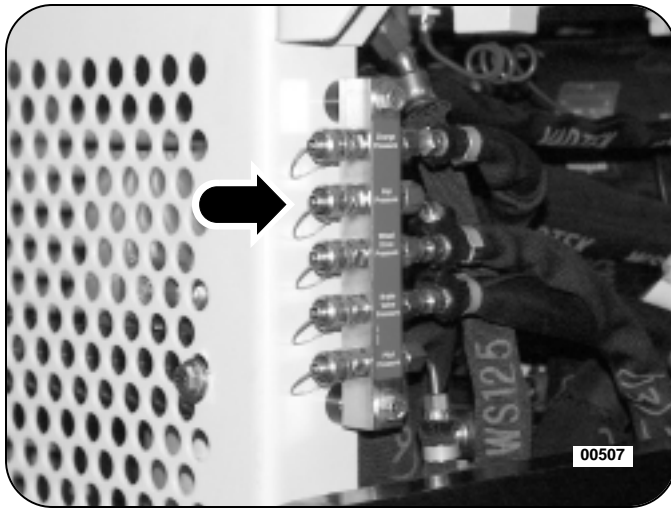

Figure 4: Implement Pump Pressure Gauge Port Tap
NOTE: Each machine is shipped from the factory with at least one 600 PSI and one 10,000 PSI gauge with quick-couple adapters. The gauges can be found in the Up-Time Kit under the operator's seat. See Figure 4.
5. Connect the 600 psi pressure gauge, with the TIMBCO quick-couple adapter attached, to the gauge port tap provided on the centralized pressure check manifold. See Figure 4.